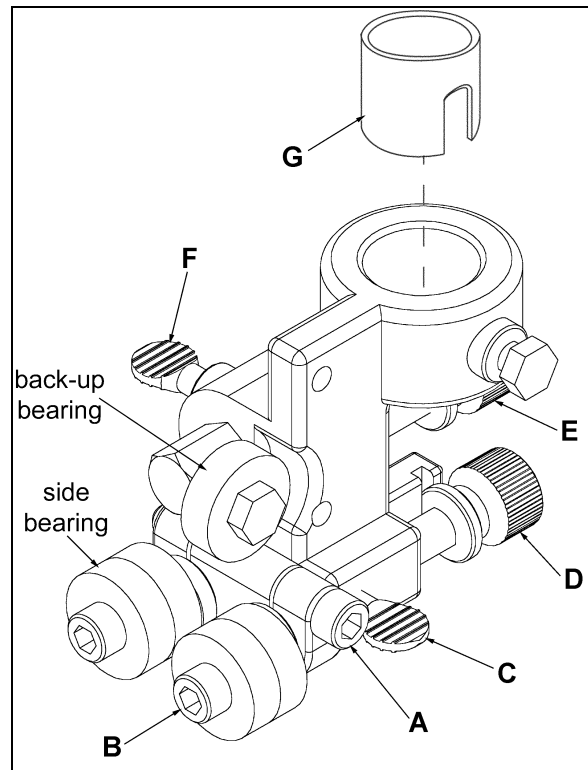

Figure 2
Note: Model JWBS-14OS Band Saw requires *bushing* (Part No. 150214) shown in G, Fig. 2.
Referring to Figure 2:
2. Adjust the *back-up bearing* (Fig. 2) so that it is 0.003" away from the back of the blade, about the thickness of a piece of paper. To make this adjustment loosen *thumb screw* (F, Fig. 2) and turn the *adjusting screw* (E, Fig. 2) until the adjustment is correct. Tighten *thumb screw* (F, Fig. 2).
3. Loosen the *thumb screw* (C, Fig. 2) and turn the *adjusting screw* (D, Fig. 2) until the bearing guides rest just behind the gullet of the blade teeth.
4. Loosen the *socket head cap screw* (A, Fig. 2) and turn the *screw* (B, Fig. 2) clockwise or counter-clockwise until the *side-bearing* (Fig. 2) is 0.003" away from the side of the bearing, about the thickness of a piece of paper.
6. Tighten *socket head cap screw* (A, Fig. 2). Check to make sure the adjustments have not changed and the bearing guides do not pinch the blade.